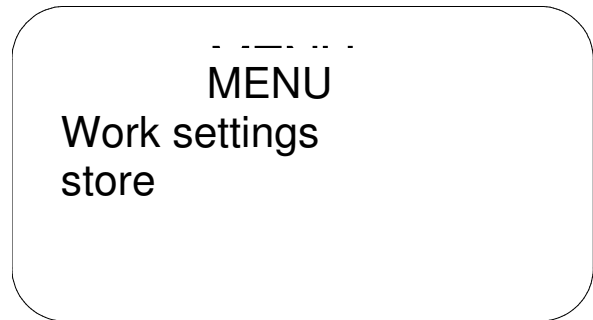

Fig. 24
- Then turn the large turning knob in a counter clockwise direction to the submenu "Work settings store" (fig. 24).